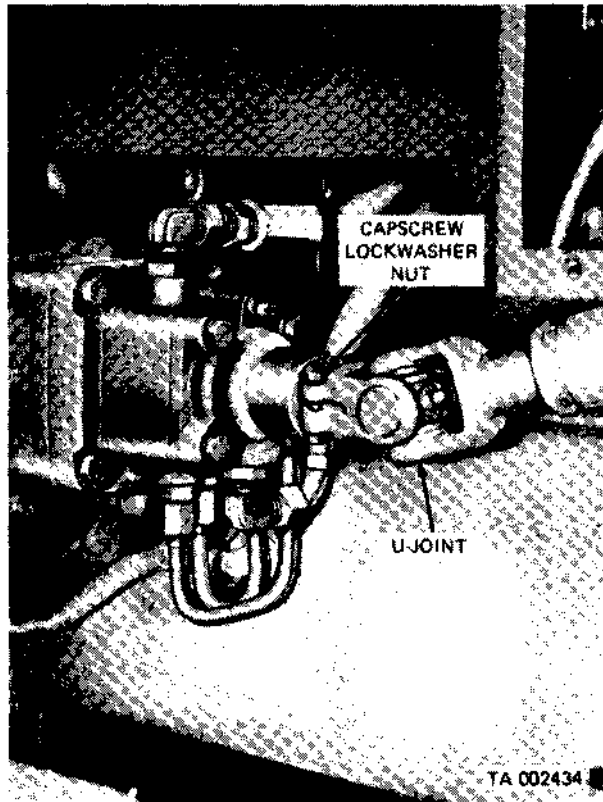

Figure 175.2 Steering shaft extension U-joint.
(1) Remove capscrew, lockwasher, and nut securing steering shaft extension U-joint to power steering control valve stub shaft (fig. 175.2).
(5) Connect steering column U-joint to steering gear input shaft. Install capscrew, lockwasher, and nut (fig. 175.2). Refer to Appendix I.